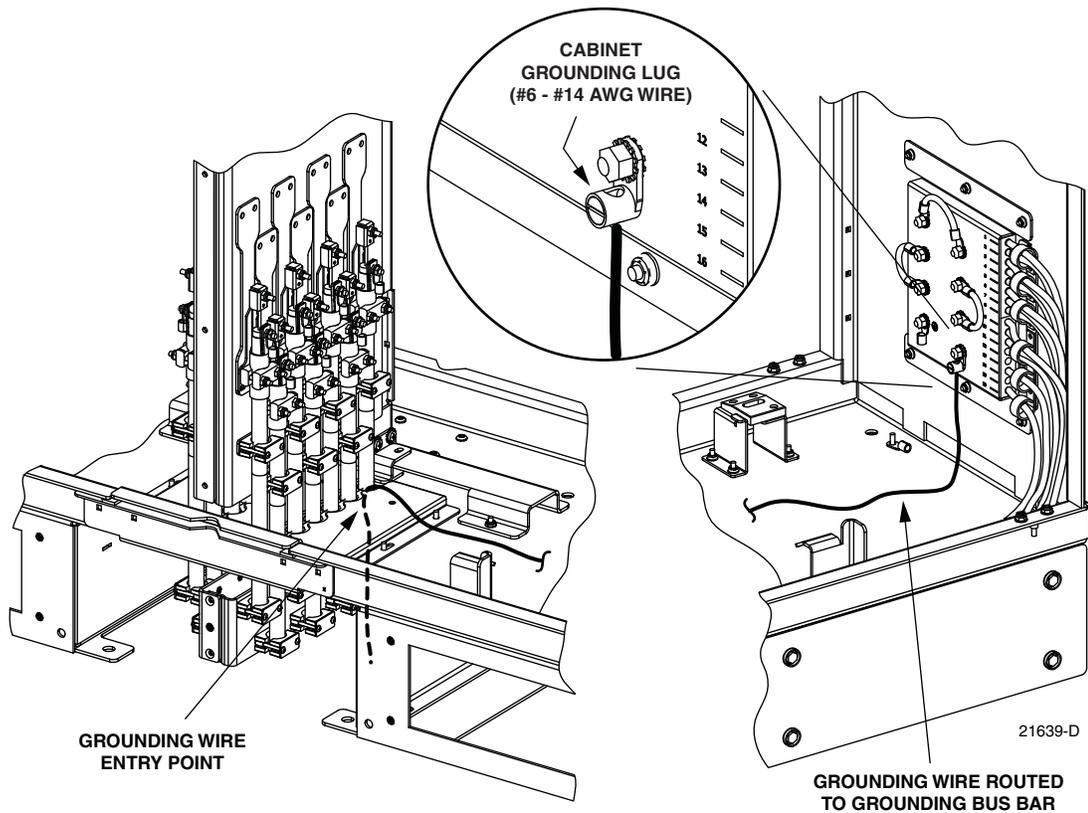

Figure 7. Grounding Wire Connection To Grounding Bus Bar
2. Working from the bottom side of the cabinet, insert the grounding wire through the flexible membrane at the point indicated in Figure 7.